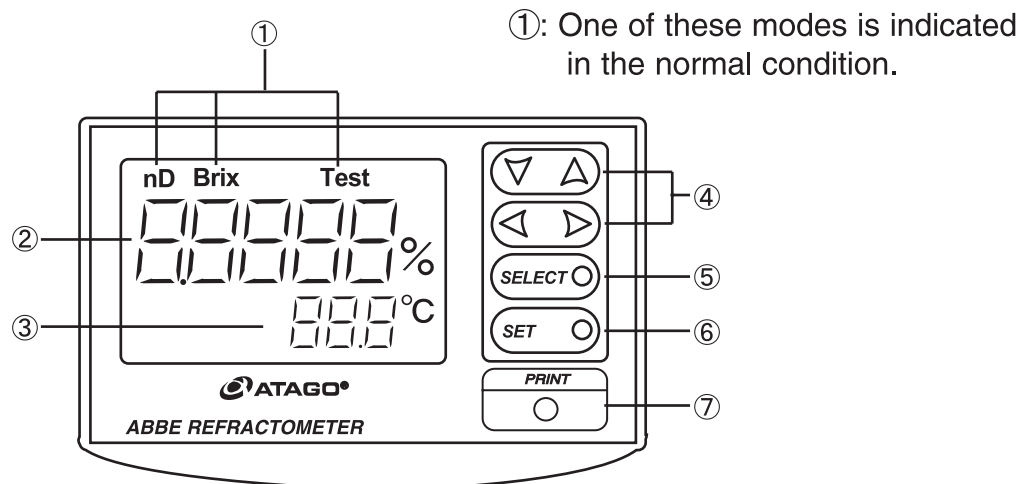

Fig. 4-6
(3) Display section (Fig. 4-6)
① Mode indicator: